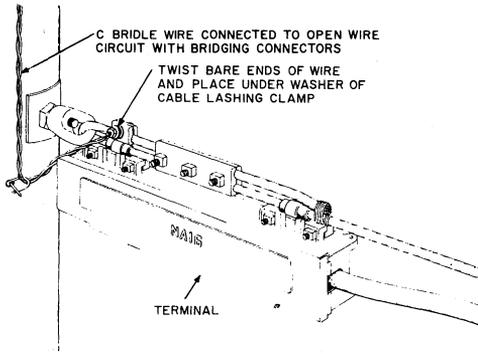
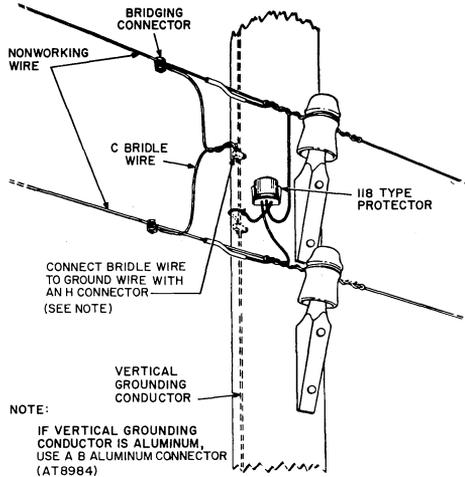

Fig. 37—Grounding Nonworking Wire at Terminal Pole
Fig. 38—Grounding Nonworking Wire at Vertical Ground
7.01 For grounding procedures to be observed when placing open wire, refer to Section 623-102-010. Grounding open wire that is in place but is not connected for service will reduce the effects of electrical induction and the effects of accidental contact with power conductors. Nonworking open wire may be grounded at terminal poles (Fig. 37), at protectors, or at vertical ground conductors (Fig. 38).